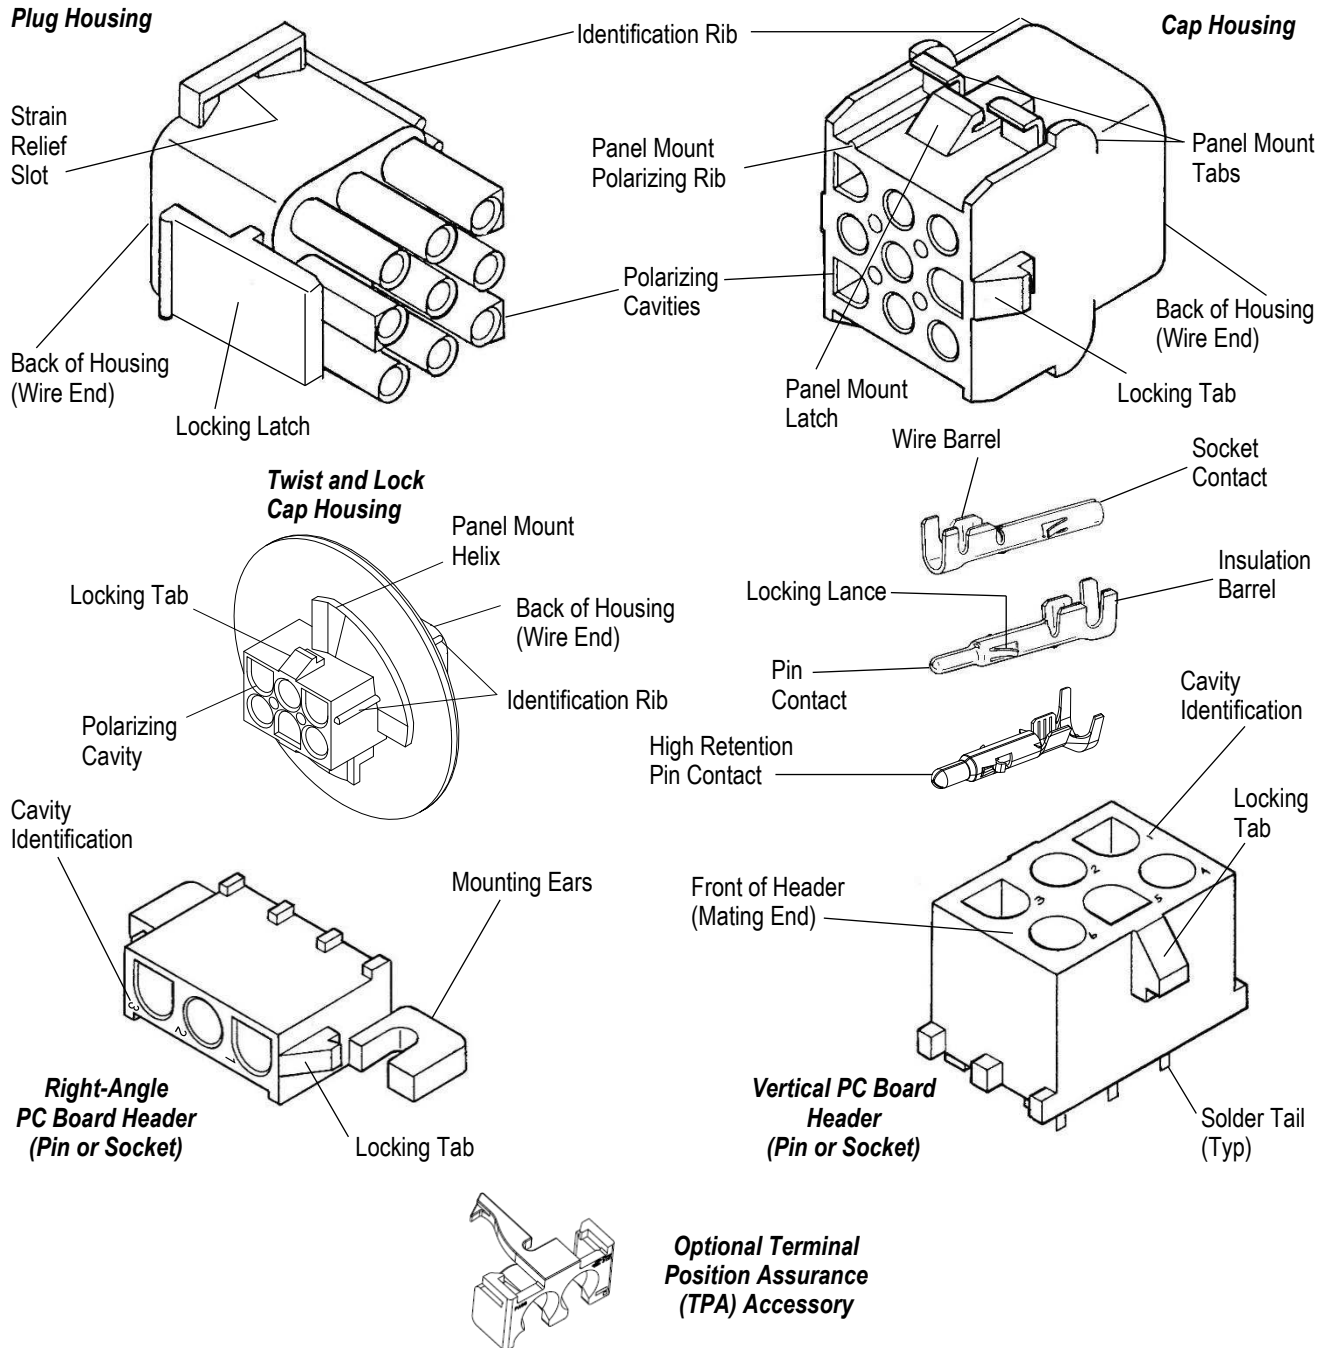

Figure 1
When corresponding with TE Connectivity Personnel, use the terminology provided in this specification to facilitate inquiries for information. Basic terms and features of this product are provided in Figure 1.
- Updated Paragraph 1, Figure 1, Paragraph 2.5, and Paragraph 3.9 with TPA information.